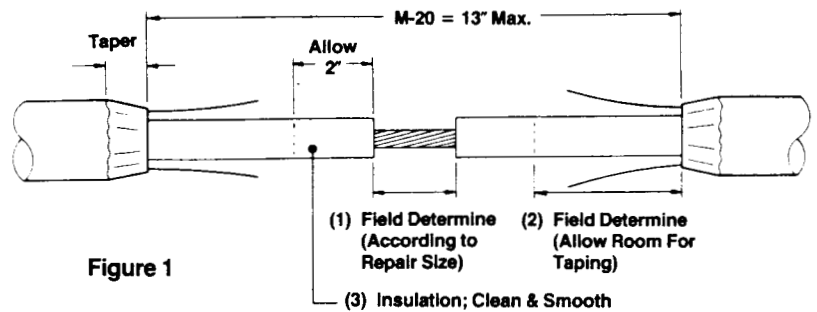

Figure 1
2. Remove entire cable jacket from repair area, for a length not exceeding that shown in Figure 1.
1. 600/2000 Volt Portable Cable (Non-Shielded) (Figures 1 & 2):